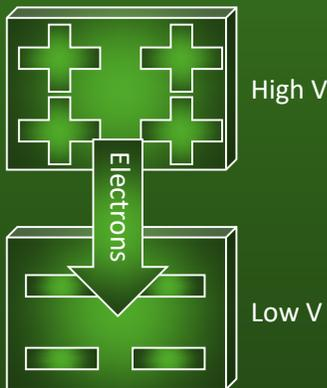

Figure A5.3. The movement of electrons is from high voltage to low voltage.
- ❑ We measure current as the movement of charge from the higher voltage to the lower voltage as shown in *Figure A5.3*. The flow of positive charge is called **conventional current**. The flow stops when the potential difference between the two points is zero. Voltage is a quantitative expression for the difference in electrical potential between two objects or points. The bigger the difference (in electrical potential) the more current could flow in the same circuit.